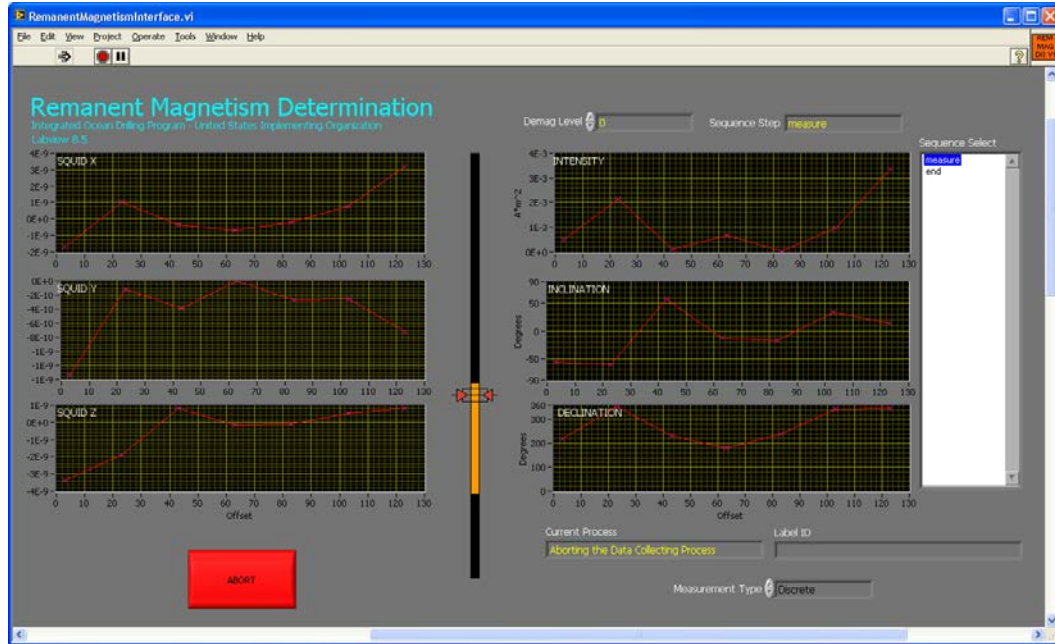

Figure 8. Data Collection Screen.
1. Select **Process Samples** from the *Main* screen to start measuring samples and open the *Data Collection* screen (Figure 8). The plots show real-time acquisition plots for the sequence step in progress.